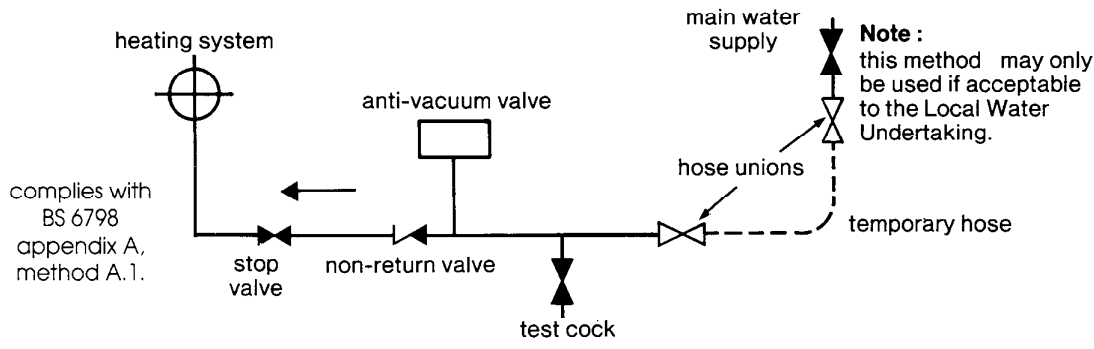

Fig. 12
1) Through a temporary hose connection from a draw off tap supplied from a service pipe under mains pressure provided that this is acceptable to the Local Water Authority, see fig. 12).